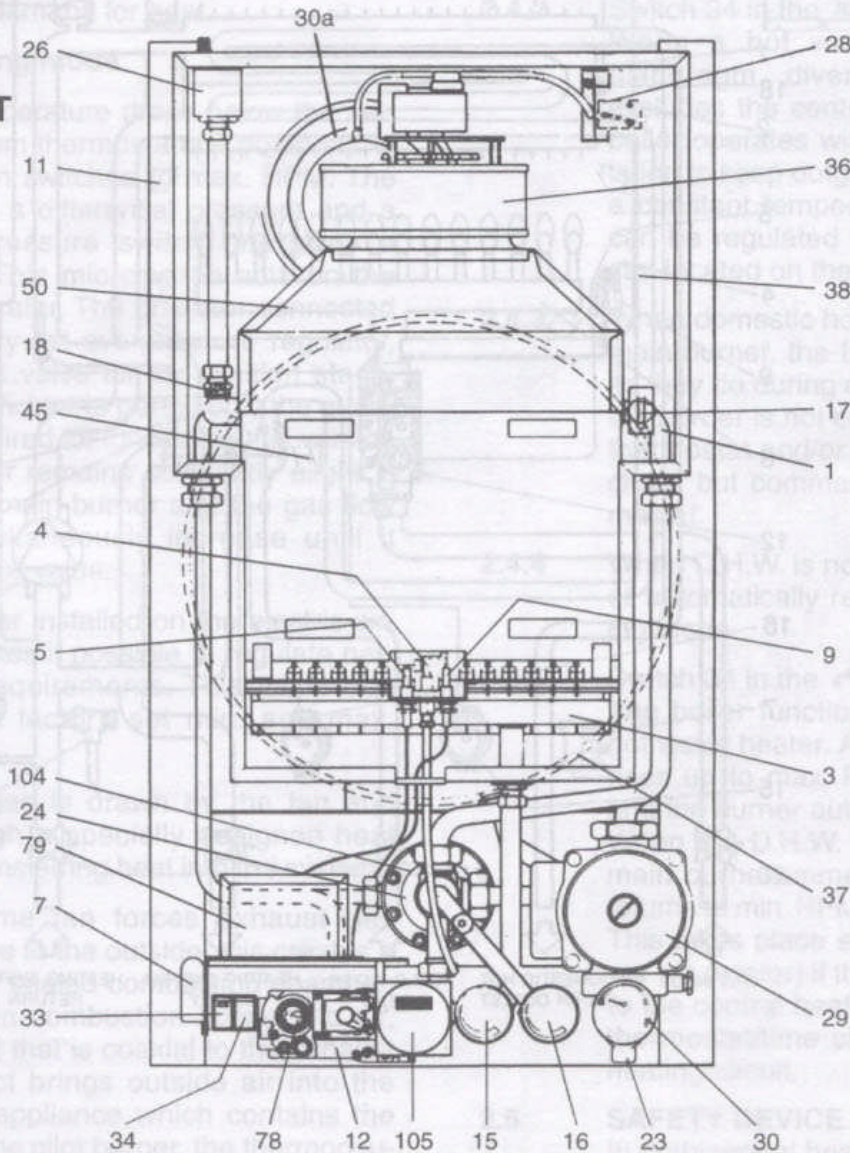
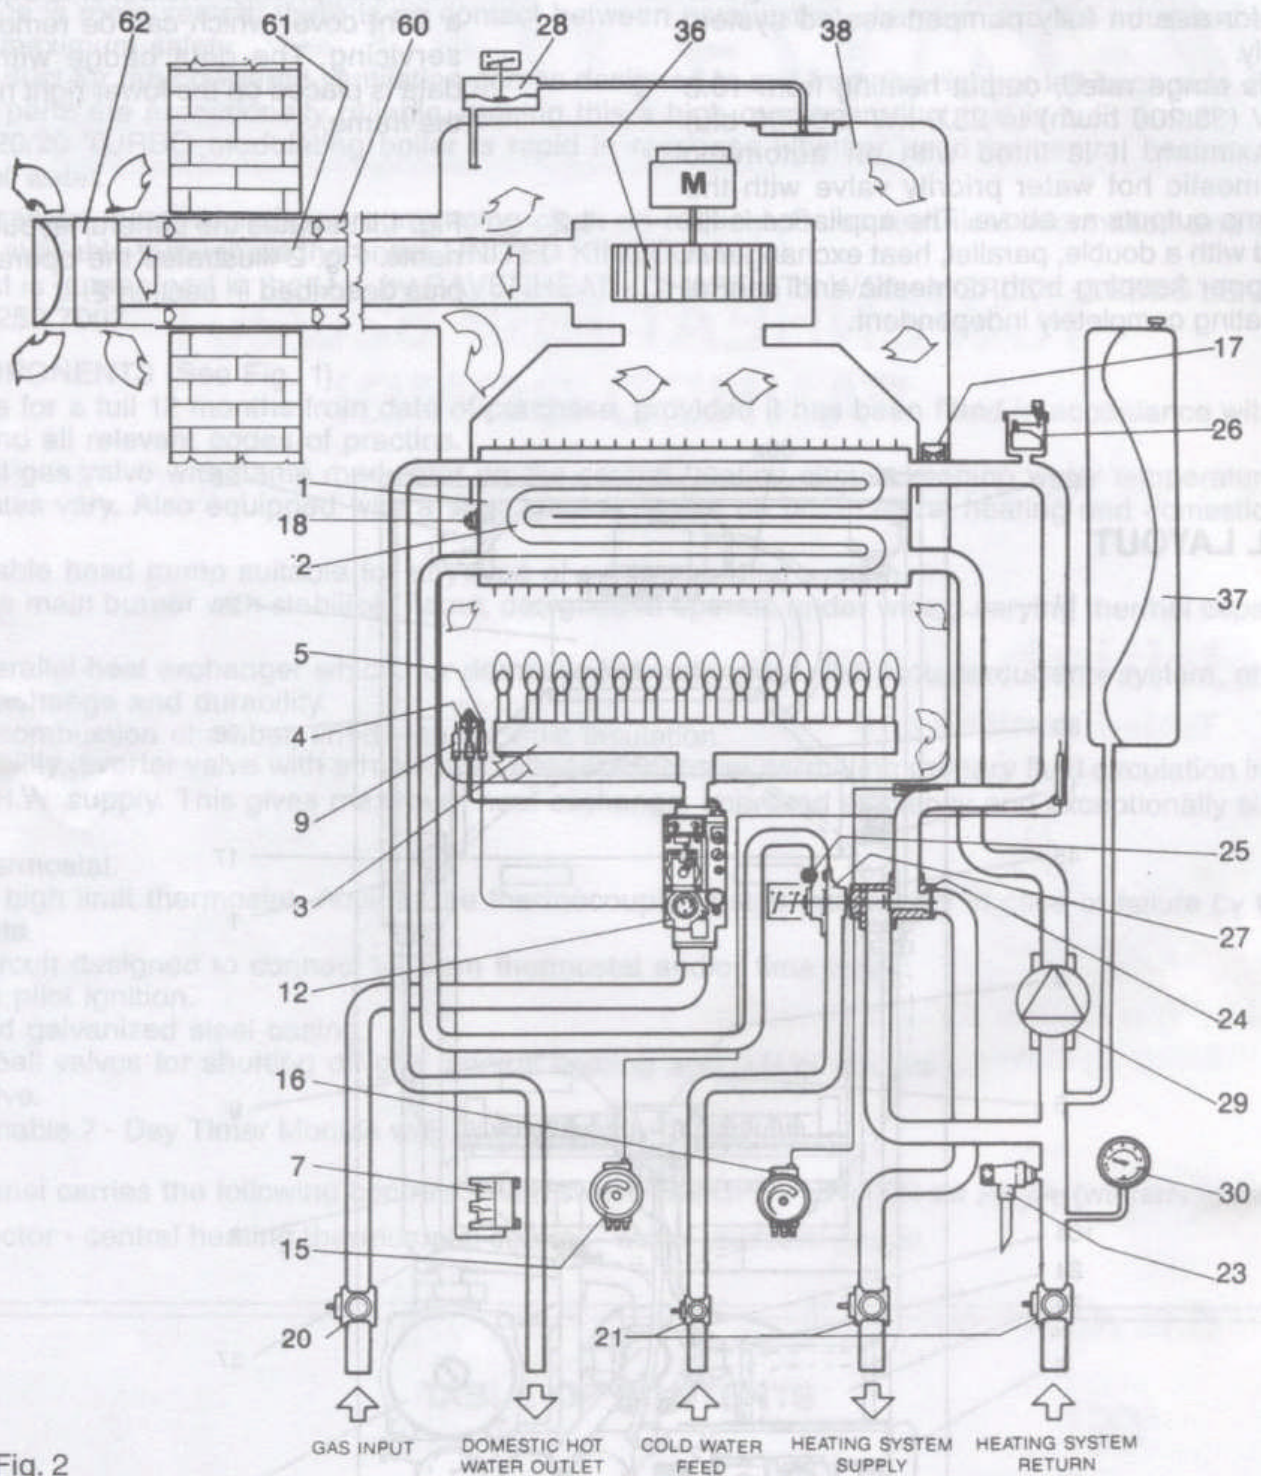

Fig. 1
Fig. 2
BASIS COMPONENTS (See Fig. 1)
1.2 Fig. 1 Illustrates the general layout of components. Fig. 2 Illustrates the operating principles described in section 2.